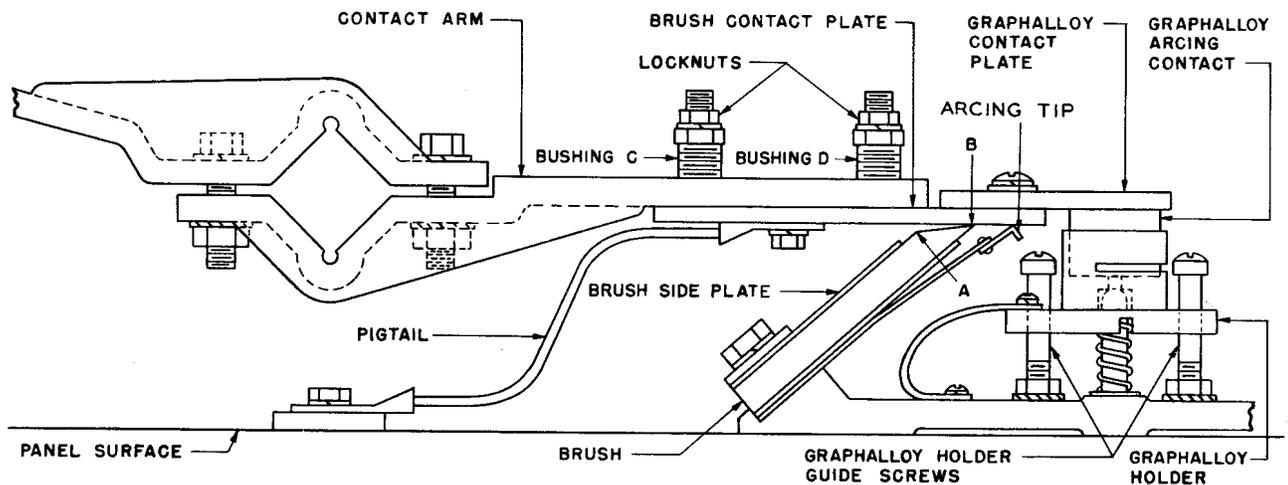

Fig. 5 - Contact Adjustment for Laminated-Type Contacts and
- (2) The arcing tips (see Fig. 5) should be shaped with pliers or replaced when required.
└ (3) **Brush-Type Main Contact** — See Fig. 5:
On contactors having laminated brush main contacts of the type shown in Fig. 5, first adjust the graphalloy arcing contacts, if any, in accordance with (a) below and then adjust the laminated brush contact in accordance with (b), (c), (d), and (e). On multi-pole contactors do each step on all like contacts before proceeding to next step.